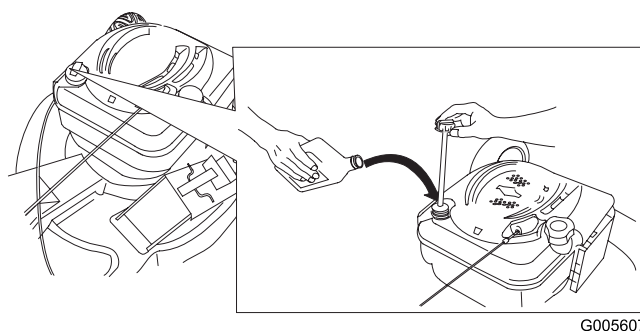

Figure 9
1. Remove the dipstick (Figure 9).